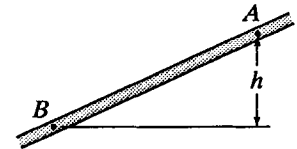

Figure X5.3.4
- 5.3.4 In Figure X5.3.4, the pipe AB is of uniform diameter and $h = 28$ ft. The pressure at A is 30 psi and at B is 40 psi. In which direction is the flow, and what is the pipe friction head loss in feet of the fluid if the liquid has a specific weight of (a) 35 lb/ft³; (b) 92 lb/ft³?